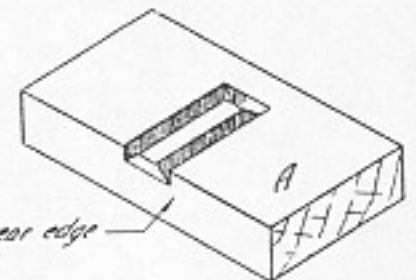

Fig. 184. Chiseling gain.
4. First a small triangular groove is chiseled all around, and then it is gone over again, striking heavier blows (Fig. 184).